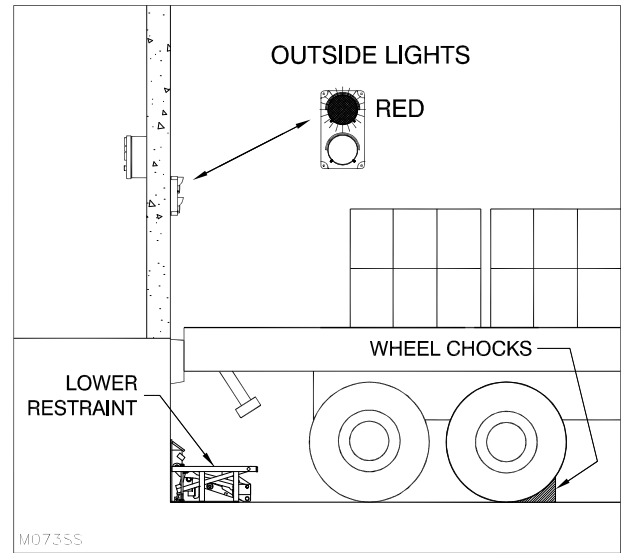

Figure 20: Secure Trailer by Other Means
**THE TOP OF THE R.I.G. OF THE TRUCK/TRAILER MUST ALWAYS BE LOWER THAN THE OVERHANG ON THE FRONT FACE OF THE VERTICAL LOCK ARM AND LOCATED BETWEEN THE FRONT FACE OF THE VERTICAL LOCK ARM AND THE RESTRAINT BACK PLATE (See "Figure 15: Vertical Locking Arm Position" on page 17). IF THE TRUCK/TRAILER IS NOT PROPERLY ENGAGED AS PER THESE INSTRUCTIONS, LOWER THE RESTRAINT (See "What to do if the R.I.G CANNOT BE ENGAGED BY the RESTRAINT" on page 19) AND DO NOT LOAD/UNLOAD UNTIL THE TRAILER IS SECURED BY OTHER MEANS. See "Figure 20: Secure Trailer by Other Means" on page 19.**